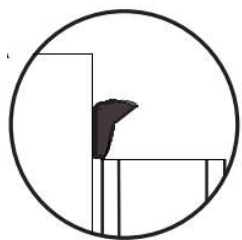

Fig. 9
1. Cut two pickets to attach to the posts an each end. The picket sits inside the aluminum rail and should be cut to fit just below the top bracket (see Fig. 9).